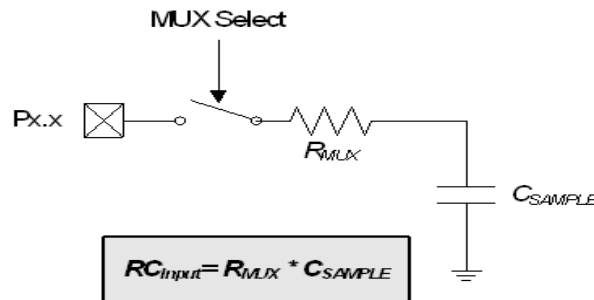

Figure 4.6. ADC0 Equivalent Input Circuits
Figure 4.6 shows the equivalent ADC0 input circuit. The required ADC0 settling time for a given settling accuracy (SA) may be approximated by Equation 4.1. When measuring the Temperature Sensor output, use the settling time specified in Table 2.3 on page 29. See Table 2.3 on page 29 for ADC0 minimum settling time requirements.